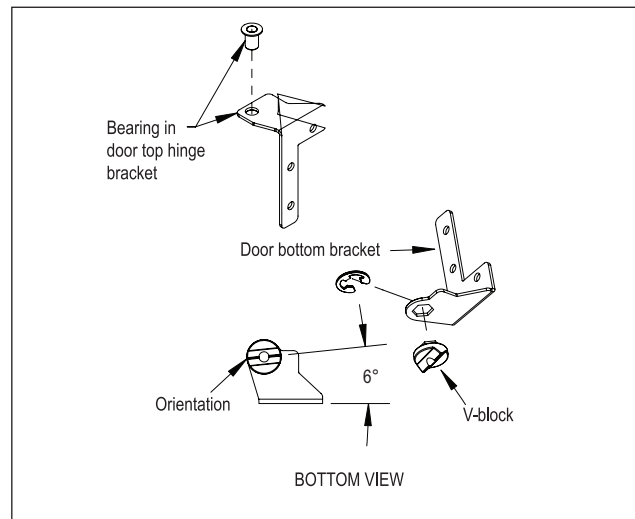

Figure 13. Bearing and V-Block
9) Insert the bearing into the door hinge bracket (Fig. 13).
10). Insert the V-block into the door bottom hinge bracket and attach with the e-clip (Fig. 13). Note the orientation of the V-block.